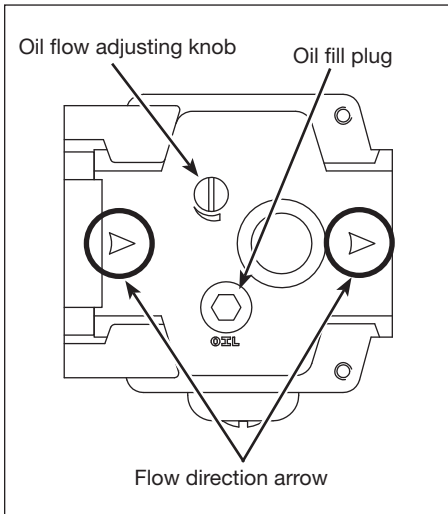

Figure 2 - Detail showing location of flow direction arrow and oil fill plug
1. Locate the air flow direction arrow (See Figure 2, detail). This arrow shows the direction of the air flow.
3. Verify the arrow points in the direction of the air flow (See Figure 2.)
3. The oil flow is controlled by the narrow cylindrical adjustment screw (See Figure 2). Turn counter-clockwise for more or clockwise for less oil delivery. The oil delivery rate automatically adjusts with changes in air flow.
4. The lubricator can be filled while the system is under pressure. Slowly remove the oil fill plug (See Figure 2) to allow relief of air pressure. After the oil fill plug has been removed, pour oil into the lubricator and then replace